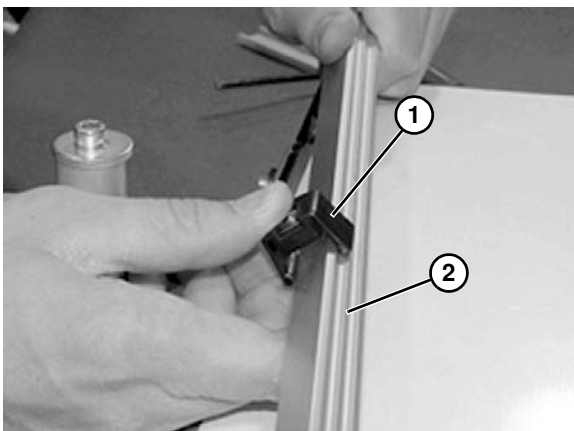

Figure 33
4. Snap clip (**Figure 33, item 1**) onto guide rail (**Figure 33, item 2**).